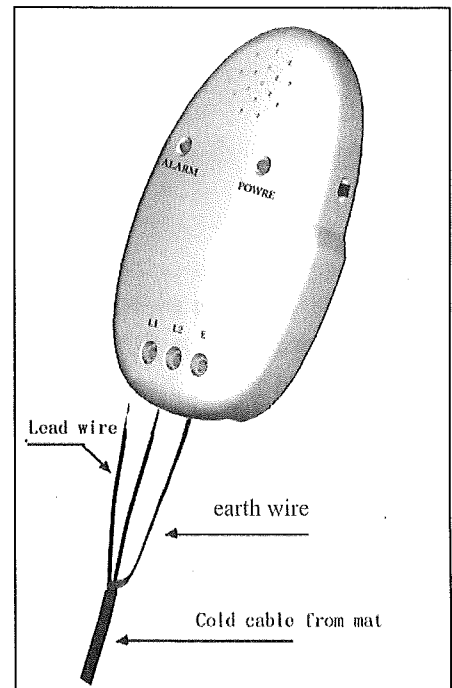

Figure 2
Connect the system leads at beginning of the installation (see *Figure 2*).
1. FOR A SINGLE MAT OR LOOSE CABLE REEL: Strip the insulation around the tip of the cold cable and separate the sheath earth wire. Insert each lead wire of the cold cable into the L1 and L2 terminals with the earth wire inserted into the E terminal. Tighten the terminal screws onto the wires (as shown in *Figure 2*).